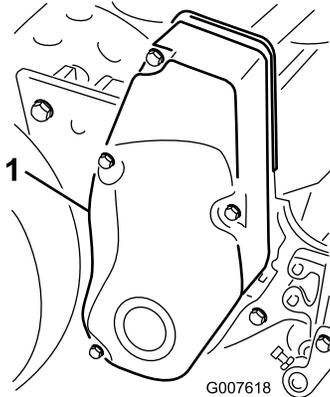

Figure 34
1. Remove the belt cover mounting fasteners and the belt cover to expose the belt (Figure 34).